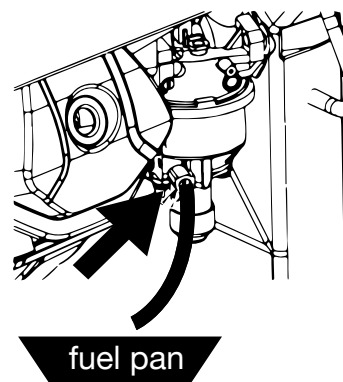

Figure 21: Drain Float Bowl
4. After all the gas has drained out, tighten the screw (see Figure 21).